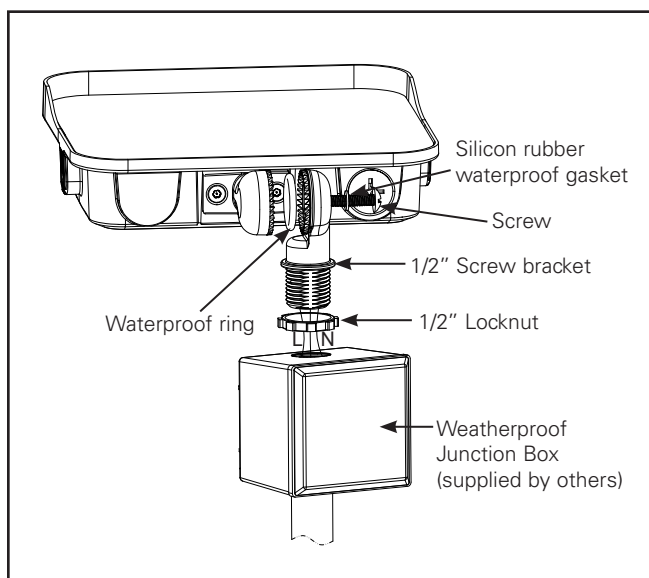

Figure 1.
1. Install the fixture by knuckle bracket on the weatherproof Junction Box (supplied by others), and secure it by 1/2" locknut (figure 1)